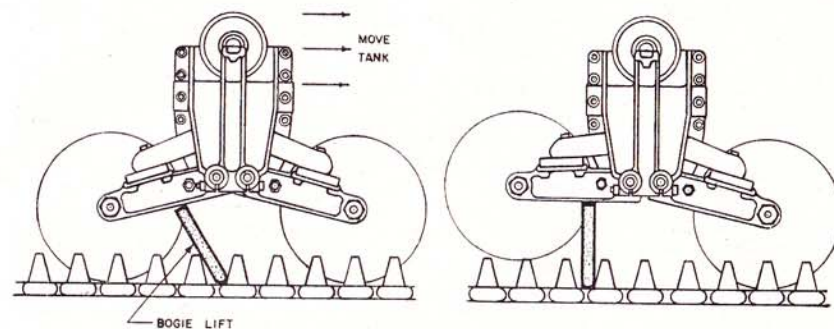

FIGURE 49.—Use of bogie lift to raise wheel for removal.
*d. To replace bogie wheels* (fig. 49).—Bogie wheels can be replaced without disconnecting or loosening the track.
(1) Place bogie wheel lift under bogie bracket as shown in figure 49. Drive the tank upon bogie wheel lift. Caution must be exercised that the tank is moved slowly and stopped in the proper position.